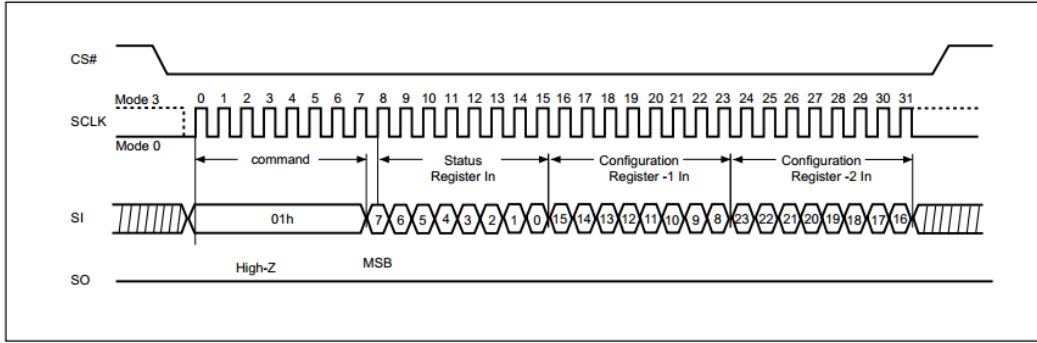

Fig 15-7 Write Status Register and Write Configuration Register sequence (FlashClass6)
**Note 3:** For MXIC wide-range VCC, the Write Configuration Register is written together with Write Status Register using 0x01, as Fig 15-7 shows.